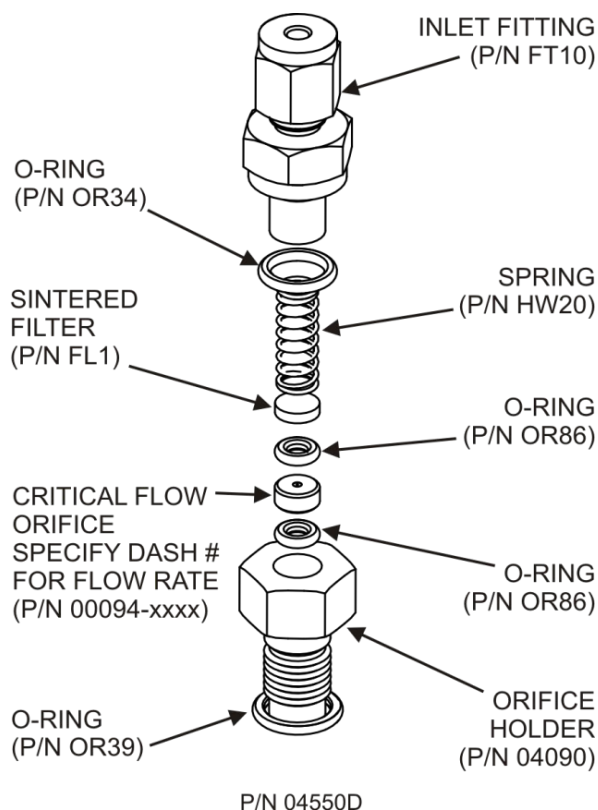

Figure 5-11. Critical Flow Orifice Assembly
- This part holds all components of the critical flow assembly as shown in Figure 5-11.
For orifices in the vacuum manifold: the assembly is similar to the one shown in Figure 5-11, except:
8. Reassemble the parts as shown in Figure 5-11.